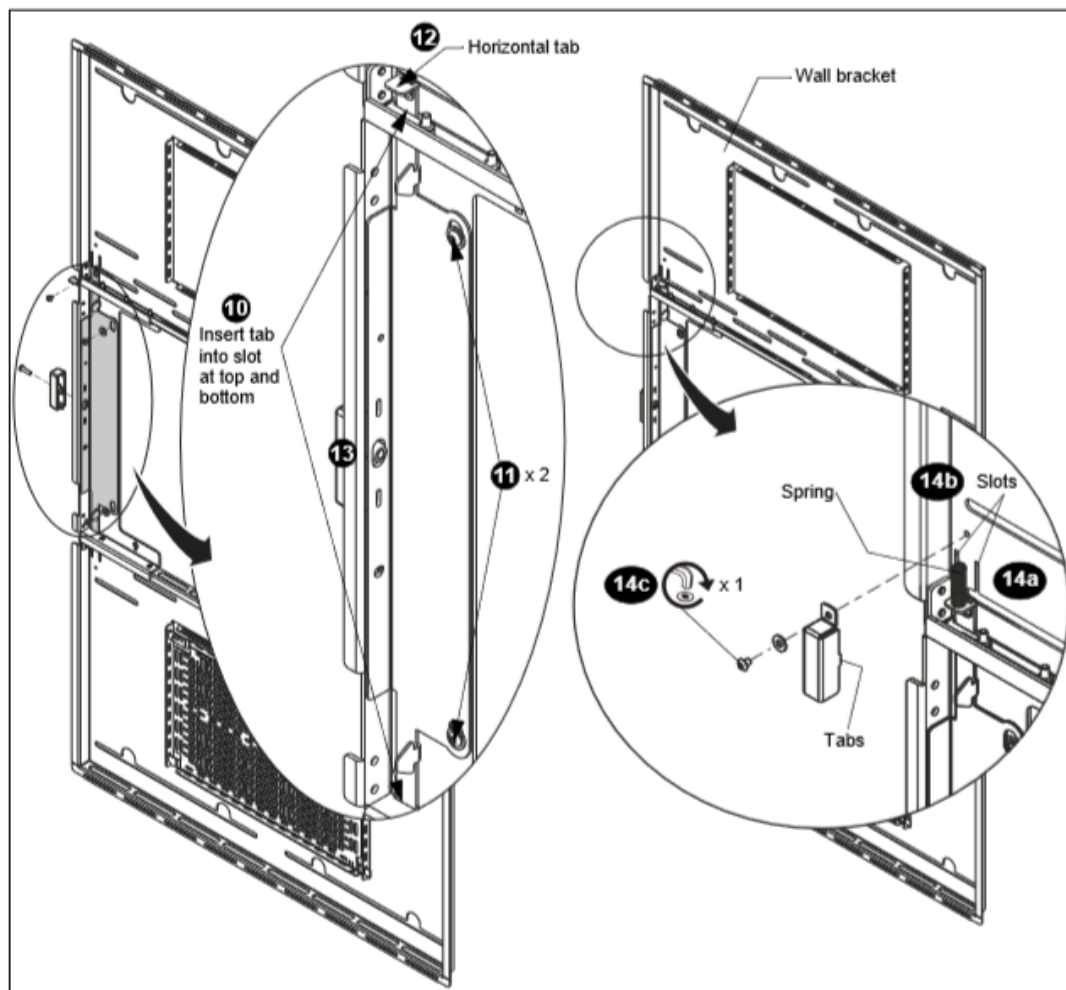

Figure 15
NOTE: Be sure that upper and lower tabs are slid into slots on wall bracket. (See Figure 15)
11. Fasten in place with two washers and screws removed in Step 1. (See Figure 15)
12. Re-install small horizontal tab removed from bottom of latch section in Step 1, by fastening it onto the top of the latch section. (See Figure 15)
13. Re-install outside latch using fastener removed in Step 1. (See Figure 15)
14. Re-install inside latch: (See Figure 15)